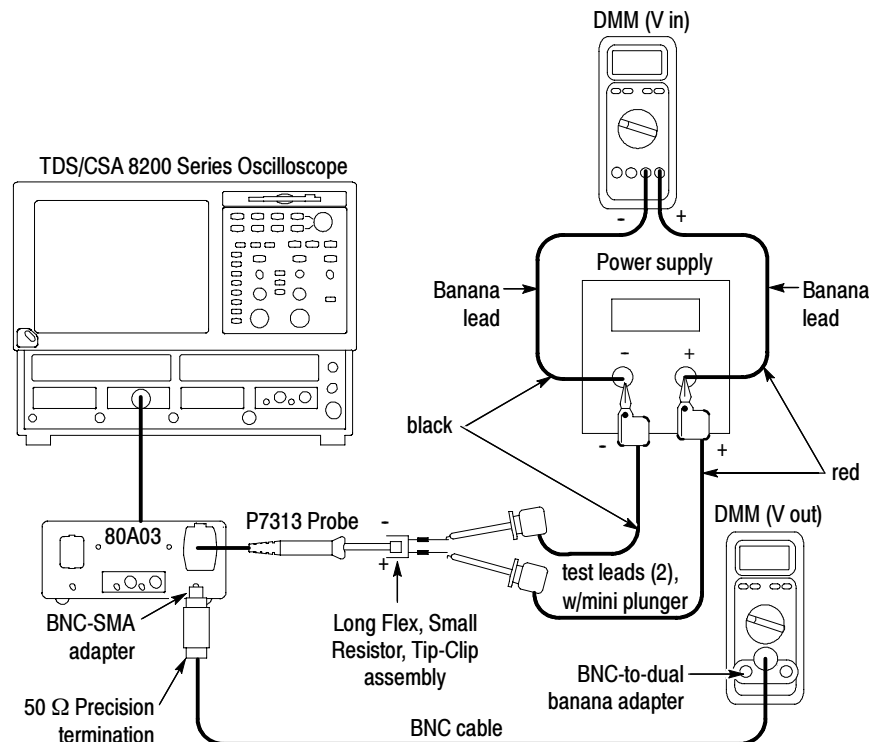

Figure 14: DC Gain Accuracy setup
2. Connect the probe with a Tip-Clip assembly to the power supply as shown in Figure 14. Monitor the source voltage with one of the DMMs.